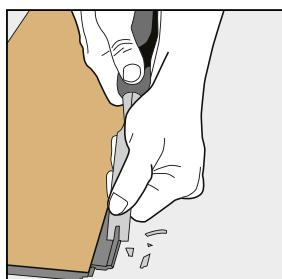
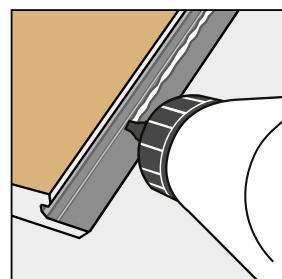

Figure 39
Figure 40
- Where the planks can no longer be installed together using the Angled Fold Down Installation method. Remove the upstand on the locking element of the protruding lower female profile (Fig 39). Then, use a suitable contact adhesive in accordance with the manufacturer's instruction (Fig 40) to connect the planks. Remember to place spacers between these planks and the wall to maintain the expansion gap.